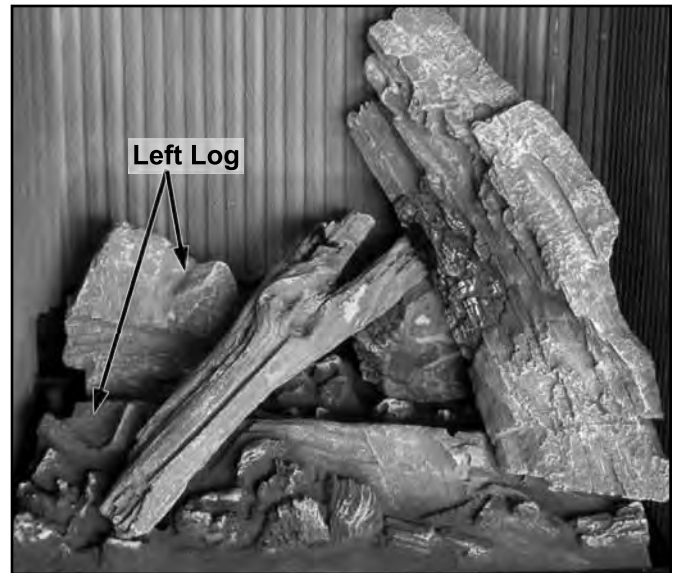

Figure 56: Log Placement of Left Log.
5. Place the bottom of the Left Log in the ledge at the front left of the burner and rest the middle of the log against the Left Rear Log Chunk as shown in Figure 56 and 57.